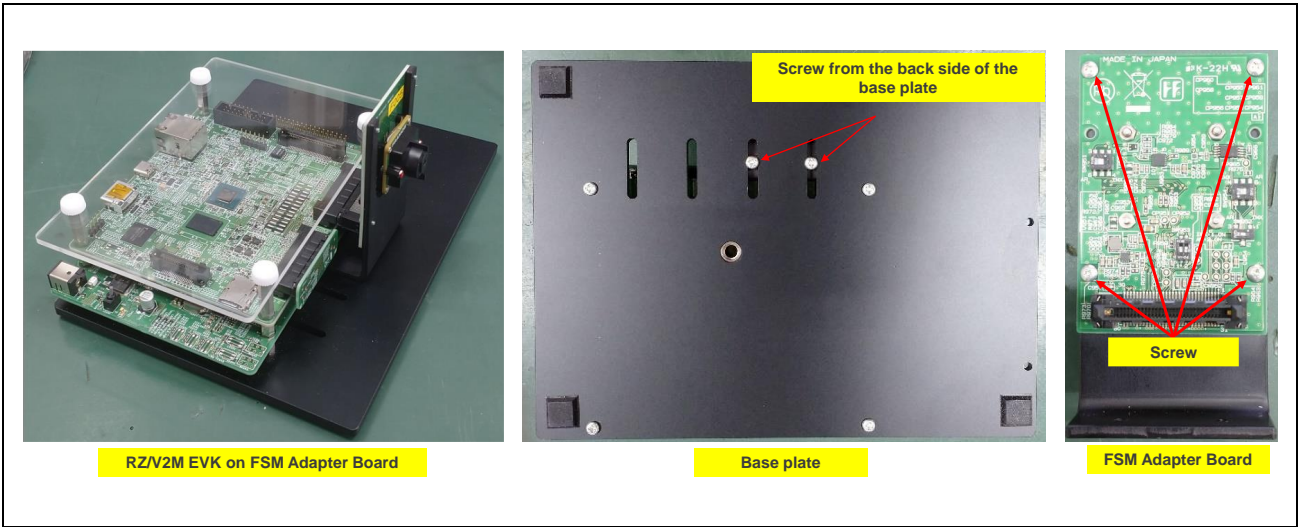

Figure 3.2-5 Screws (FSM-IMX462)
- Screw (See **Figure 3.2-5**)